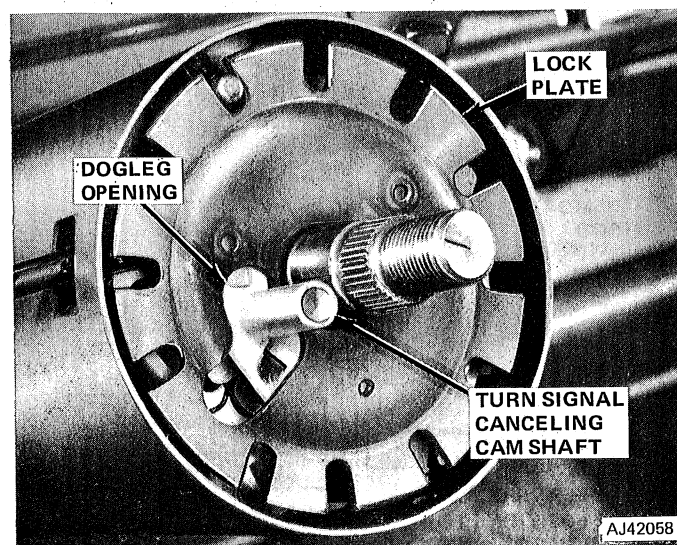

Fig. 2J-34 Cancelling Cam and Lock Plate Position
(16) Guide shift quadrant lamp wire and remote lock rod into position between shift bowl and column jacket.
(17) Install turn signal switch and harness assembly in column.
(18) Remove tape from turn signal switch wire harness connector and position harness in protector and protector-to-column jacket.
(19) Install turn signal switch retaining screws. Be sure switch actuating lever pivot is correctly aligned and seated in upper housing pivot boss before installing screws.
(20) On vehicles without Cruise Command, install turn signal lever and lever attaching screw. Tighten screw to 35 inch-pounds (4 N•m) torque.
(21) On vehicles with Cruise Command, install turn signal lever and switch assembly. Guide wires into housing using string previously taped in place. Remove string and tape. Connect wires to switch terminals. Install lever attaching screw and tighten screw to 35 inch-pounds (4 N•m) torque.
(22) Install steering shaft, if removed. Install shaft through lower end of column and into upper bearing.
(23) Install thrust washer, upper bearing preload spring, and canceling cam on upper end of steering shaft.
(24) Align lock plate splines with steering shaft splines and install lock plate. Be sure canceling cam shaft protrudes through opening in lock plate (fig. 2J-34).
(25) Install replacement steering shaft snap ring on sleeve of Lock Plate Compressor Tool J-23653 and install tool on steering shaft (fig. 2J-25).
CAUTION: *Inspect and identify the steering shaft nut thread type before installing the compressor tool. If the shaft has metric threads (fig. 2J-2), be sure to replace the compressor tool standard forcing screw with Metric Forcing Screw J-23653-4 before installing the tool on the shaft.*